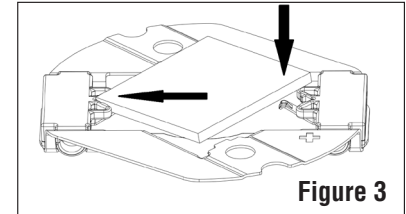

Figure 3
- Push the array toward retention legs and down to seat into other set of retention legs. (Figure 3)